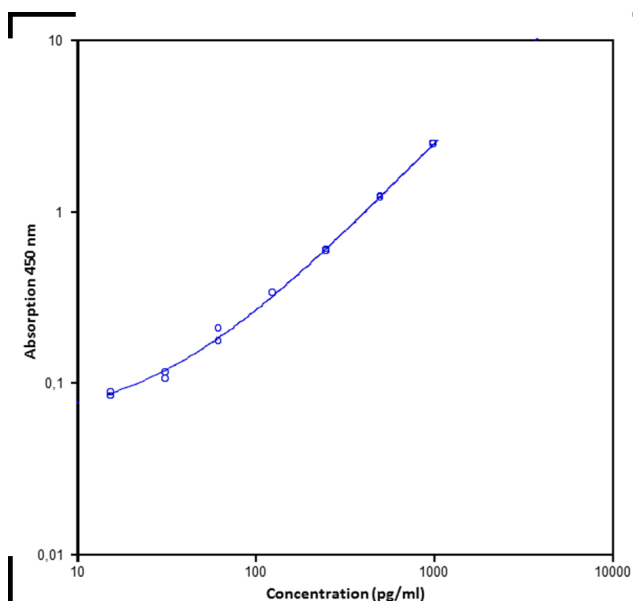

Fig. 8 Representative standard curve for Human IL-29/IFN-lambda 1 ELISA Kit. Human IL-29/IFN-lambda 1 was diluted in serial 2-fold steps in Sample Diluent.
- A representative standard curve is shown in Figure 8.